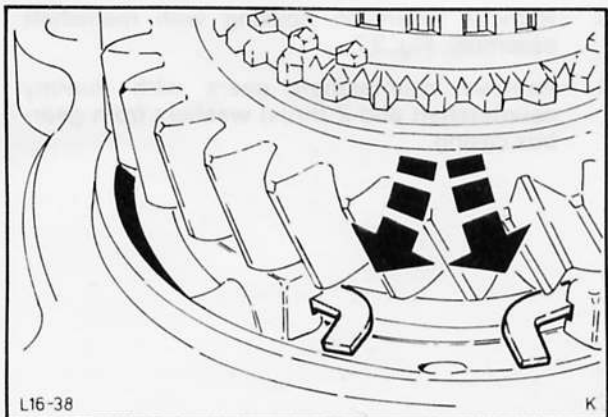

Fig. 30. Remove bearing retaining ring from extension housing
17. Remove mainshaft bearing retaining ring from groove in extension housing, Fig. 30. Drive mainshaft out of the extension housing using a copper hammer.